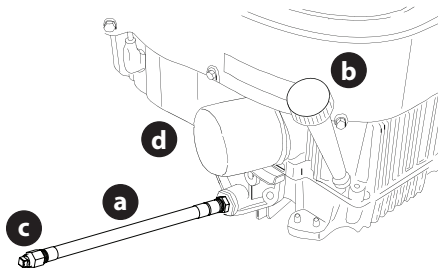

Figure 40
1. Locate the oil drain hose (a) on the side of the engine (Figure 40).
2. Place an appropriate oil collection container with at least a 2.5 quart (2.37 liter) capacity below the opening of the oil drain hose, to collect the used oil. Remove the oil fill cap/dipstick (b) from the oil fill tube (Figure 40).
3. While holding the free end of the oil drain hose over the oil collection container, unscrew the square head hose plug (c) from the end of the oil drain hose (Figure 40). Drain the engine oil into the collection container.
5. Remove the oil filter (d) and drain into the collection container (Figure 40).
6. Replace the oil filter (d), and refill the engine with new oil as instructed in the Engine Operator's Manual (Figure 40).